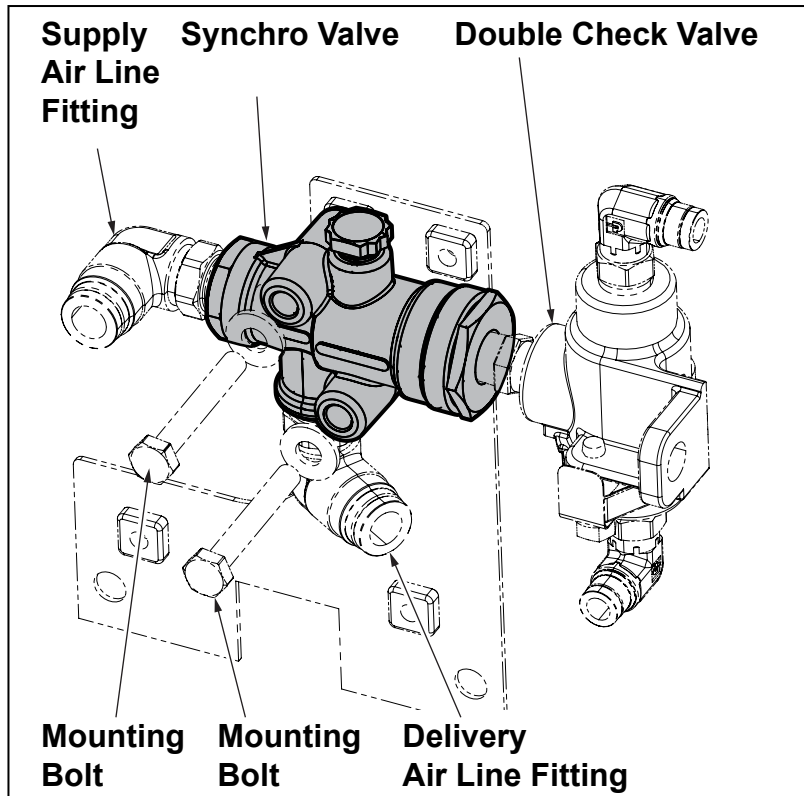

Figure 3
7. Remove the valve assembly (synchro and double check valve) by removing the 2 mounting bolts and set the mounting bolts aside for reinstallation (see Figure 3).
9. Remove the air line fittings from the 1" and 1-1/4" ends of the synchro valve and set aside for reinstallation (see Figure 3).
13. Reinstall the synchro valve and double check valve assembly by reconnecting the air lines that were disconnected in step 9 (see Figure 3).